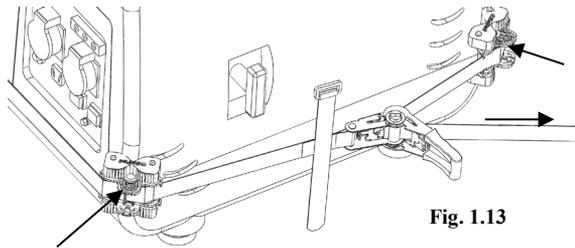

Fig. 1.13
- k. Pull the Kevlar® Strap slack tight through the Ratchet Buckle center. Maintaining tension on the Kevlar® Strap, position the Angle Braces into the desired positions on the corners of the generator. (Fig 1.13).